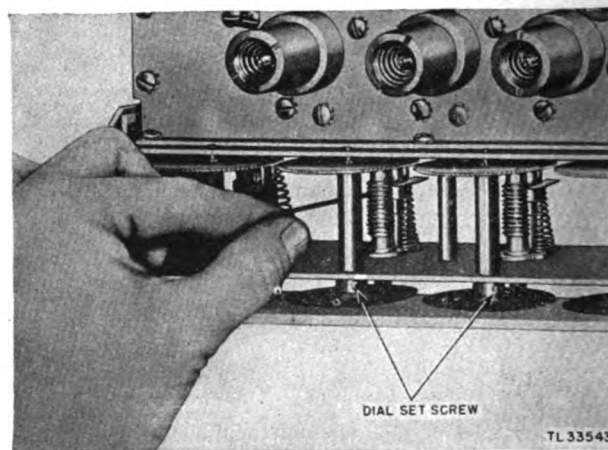

Figure 27. Tightening tuning assembly setscrews.
(8) Check the r-f end of the receiver for loose setscrews (fig. 27).